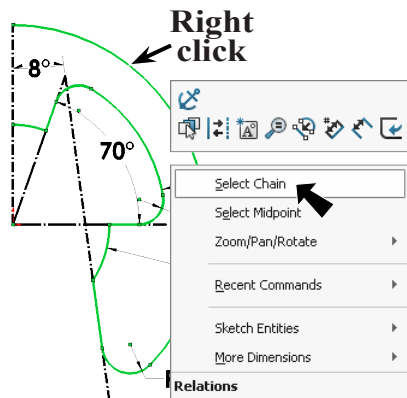

Fig. 17
Step 1. **Right click** an arc of the sketch and click **Select Chain** from the menu, **Fig. 17**.